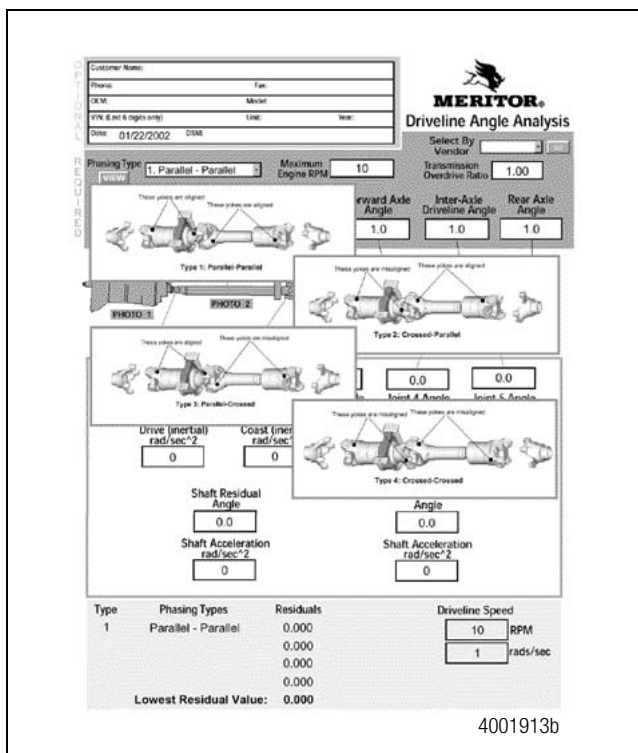

Figure 13.25
4. Enter the driveline phasing type. Click on the **VIEW** button next to the **Phasing Type** field to view examples of the four phasing types. Figure 13.25. Passing the cursor over the example windows will close them.